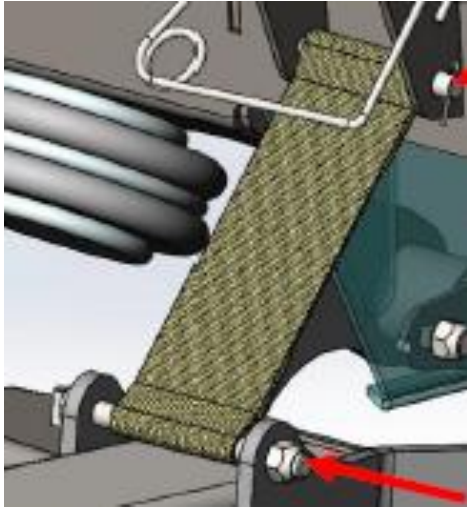

Figure 24
4. Remove the safety strap from the wheel mount. Figure 24